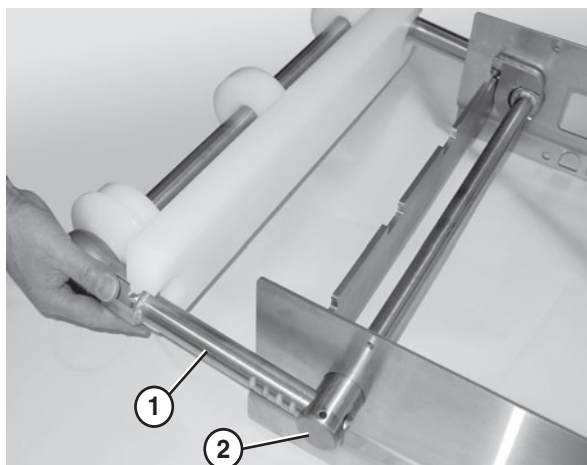

Figure 22
3. Slide the bearing shafts (**Figure 22, item 1**) into the holes in the tip up shaft (**Figure 22, item 2**).